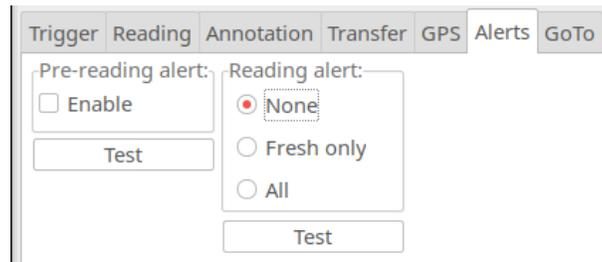

Figure 7.34: Log Continuously alerts
**Audio alerts** In cases where you want to be alerted that a reading will be taken, for example, when manually pointing the meter, the Pre-reading audio alert named `prereading.wav` can be enabled as shown in (Fig. 7.34) to play an audio file two seconds before the light meter record is logged. The “Test” button plays this file for test purposes.